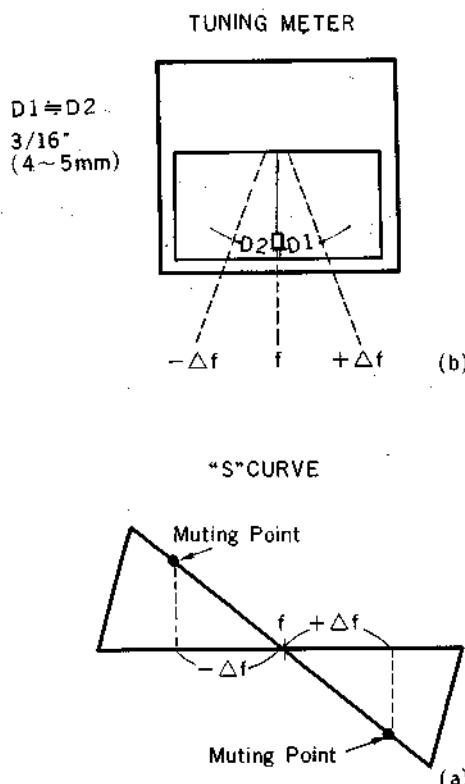

Fig. 4-4-1 Relation between "S" Curve, muting level and tuning meter deflection
- (2) Muting Level Calibration in the Detuned Condition
- Readjustment is necessary after replacing Q₄₀₁ (FET) or if the tuning meter deflection is unbalanced when detuning +Δf, -Δf respectively. The relations between the "S" curve, muting level and tuning meter deflection are shown in Fig. 4-4-1.
Increase the value of R_{403} (turn it counterclockwise) to obtain a proper response on the tuning meter. See Fig. 4-4-1.